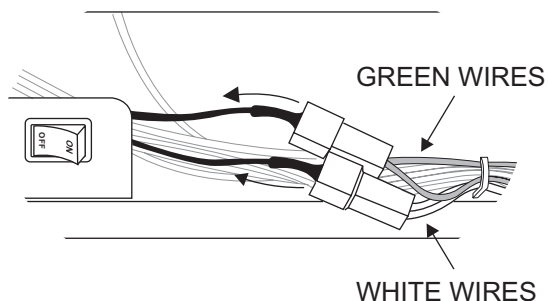

Figure 20
**"IP" Valve** - Locate the two 5-1/2 inch long black wires connected to the ON/OFF switch. Disconnect these two black wires at the green and white wire connections. Attach the flag terminals (the low voltage wire assembly found in the Instruction Packet) to the green and white wire connections. **See Figures 20 and 21.**
- b. For IP valve connections, locate the green and white wires from the control module, then connect the switch wire flag terminals to the green and white wire terminals. **See Figures 20 and 21.**